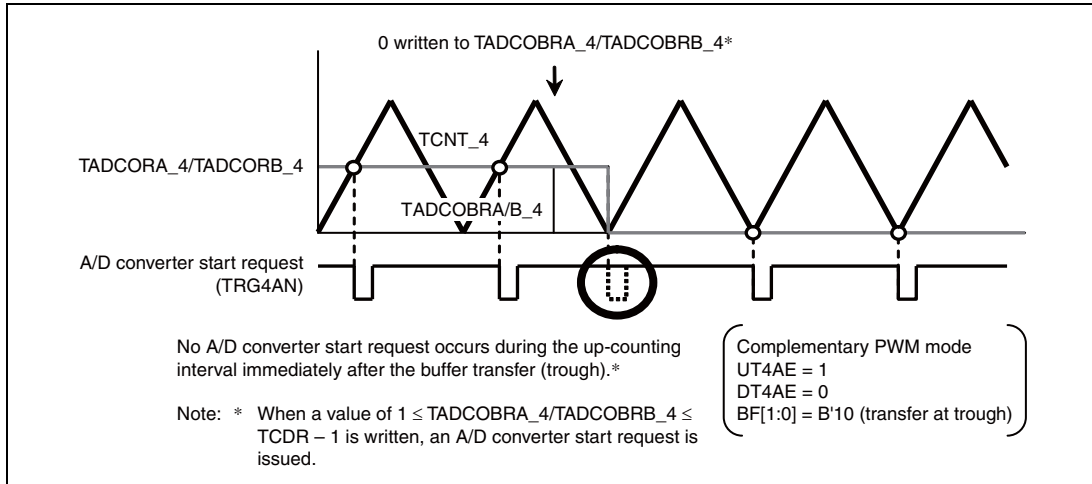

Figure 11.139 A/D Converter Start Request Operation when 0 Is Written to TADCOBRA_4/TADCOBRB_4
- When TADCOBRA_4/TADCOBRB_4 is set to 0 and the UT4AE or UT4BE bit in TADCR is set to 1, and then buffer transfer takes place at the trough of TCNT_4, no A/D converter start request occurs during the up-counting interval immediately after the transfer (figure 11.139).